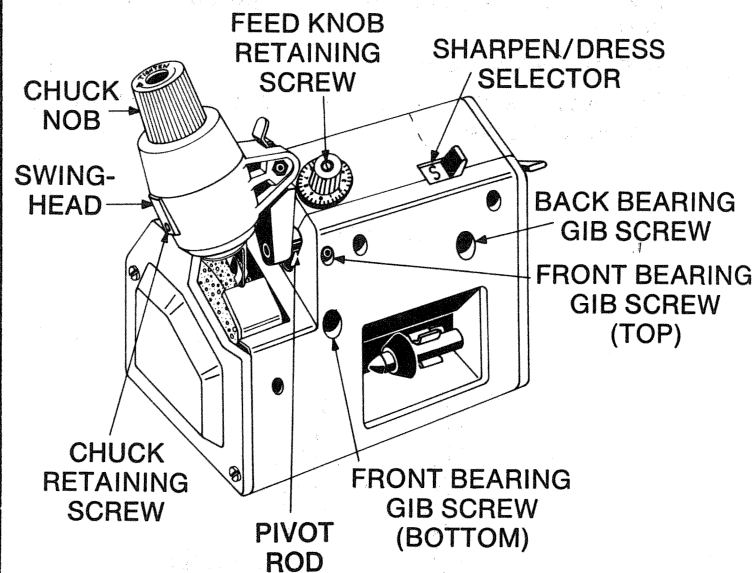

FIG. 8
- Looseness in Pivot Rod Bearing System (Fig. 8)